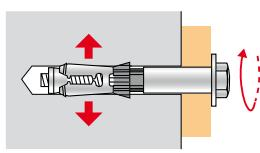
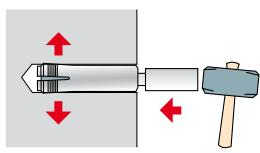

fig.3
fig.4
- **Friction** (fig.3 & fig.4): a friction force between the anchor and the hole walls equalises the load force on the anchor. The expansion of these anchors, known as expansion anchors, occurs usually through the expansion cone which is forced against the expansion sleeve during the installation.
- torque controlled expansion anchors (fig.3)
- displacement controlled expansion anchors (fig.4)